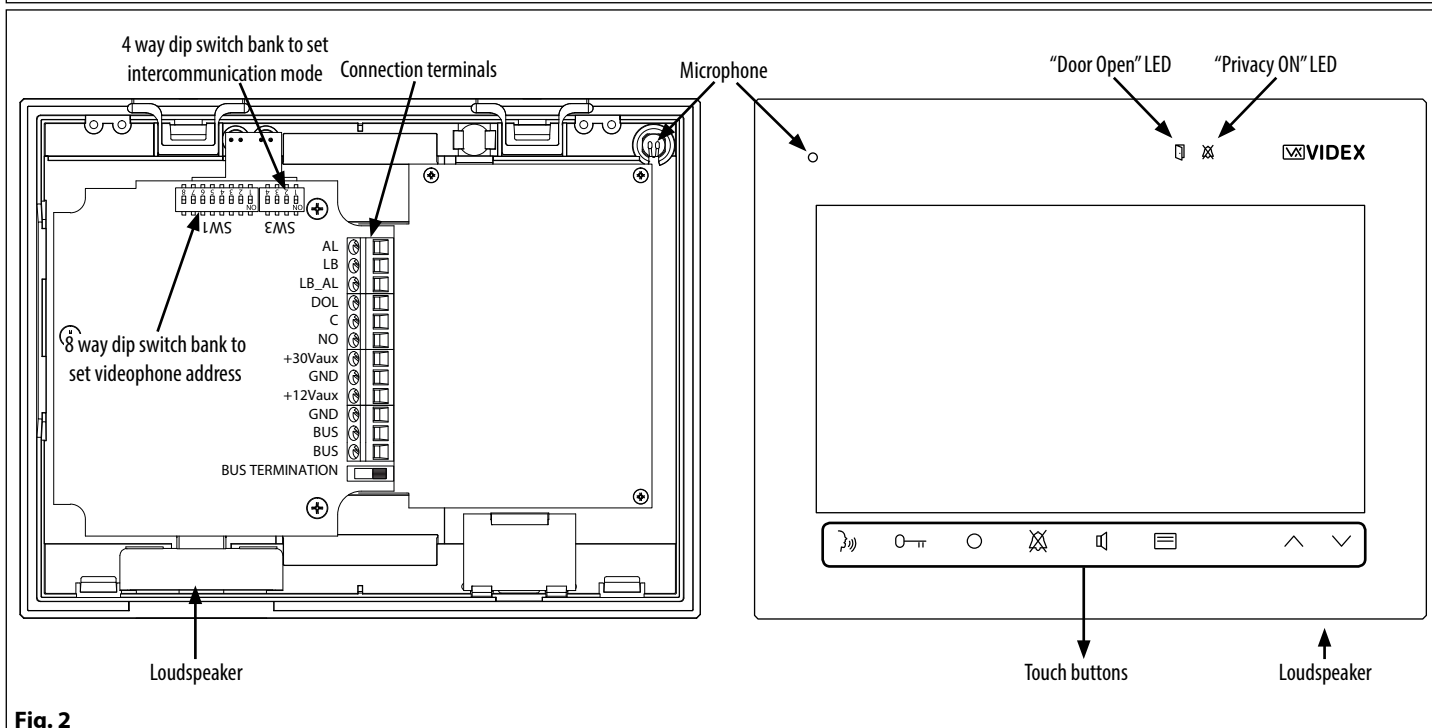

Fig. 2
2. As shown in **figure 2**, connect the wires using a flat screw driver then setup the dip-switches as per provided connection diagram or instruction sheet.